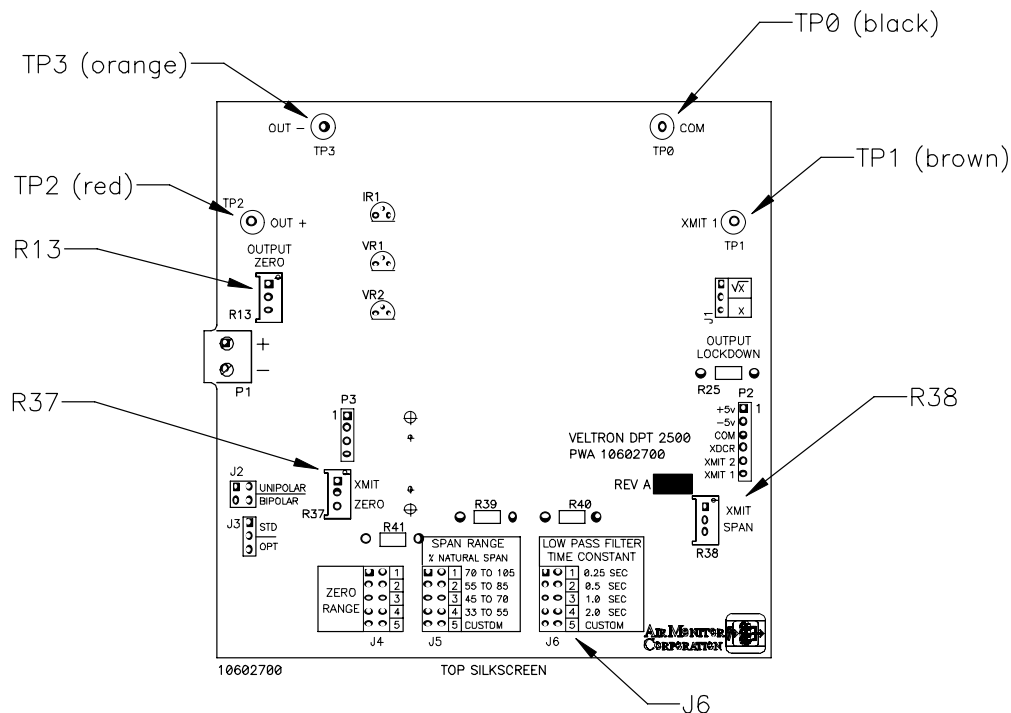

Figure 4
1. Open or remove the cover on the VELTRON DPT 2500 and locate the jumper strip-J6 (see Figure 4) on the main board.
4. Connect DMM, set to read to the nearest 0.001 VDC, across test points **TP0 COM** (black) and **TP1 XMIT 1** (brown) on the main circuit board. See Figure 4.